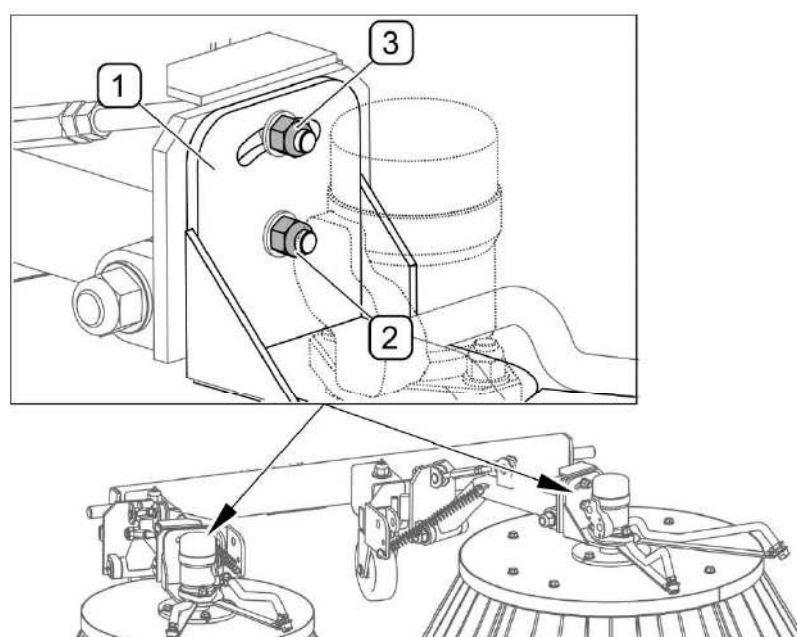

FIG. 5.8 Adjustment of lateral inclination of brushes
- 3) Adjustment of lateral inclination of brushes (FIG. 5.8)
(1) - bracket securing hydraulic motor; (2) - rotation axis of bracket; (3) - locking nut.
In order to adjust lateral inclination (FIG. 5.8), loosen rotation axis nuts (2) and locking nuts (3) and set bracket (1) securing hydraulic motor in a correct manner. Adjust inclination angle of each brush independently.